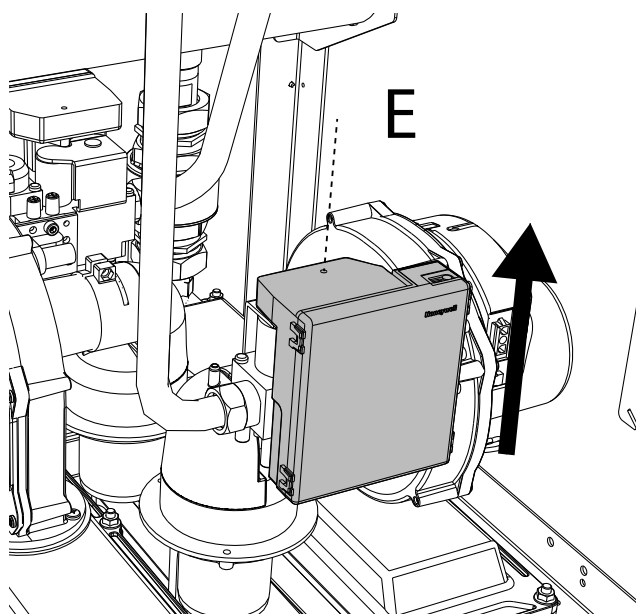

fig. 78
2. Undo the screw “E” and remove the control unit from the gas valve (fig. 78).